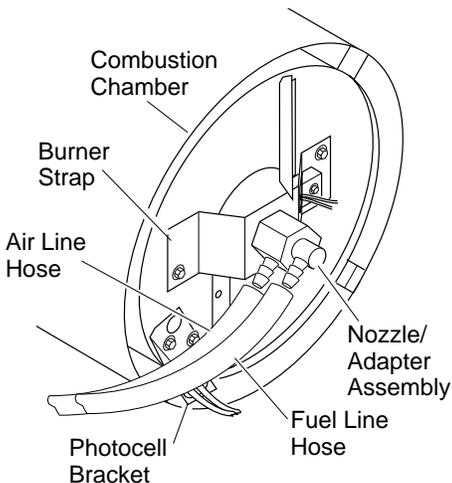
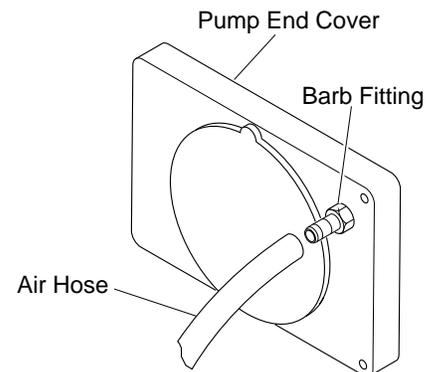

Figure 12 - Removing Air and Fuel Line Hoses (110,000 and 115,000 Btu/Hr Models Only)
Figure 16 - Air Hose to Barb Fitting
3. Remove fuel and air line hoses from nozzle assembly (see Figure 12 or 13).
4. Inspect fuel and air line hoses for cracks and/or holes. If fuel line hose is damaged, disconnect from nozzle adapter (see Figure 12 or 13) and from fuel filter (see page 8). If air line hose is damaged, disconnect from nozzle adapter (see Figure 12 or 13) and from barb fitting on pump end cover (see Figure 16).
5. Install new air and/or fuel line. Attach one end of air line hose to barb fitting on pump end cover (see Figure 16) and the other end to nozzle adapter (see Figure 12 or 13). Attach one end of fuel line hose to fuel filter (see page 8) and the other end to nozzle adapter (see Figure 12 or 13).
For 110,000 and 115,000 Btu heaters, route air and fuel line approximately as shown in Figure 12.